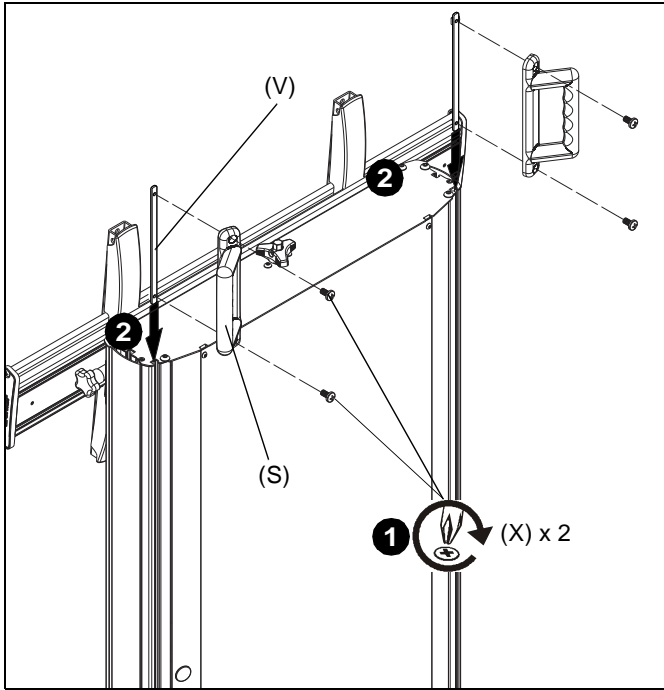

Figure 11
1. Loosely install two 1/4-20 x 5/8" Phillips pan machine screws (X) through holes in each handle (S) and into slide nut (V). (See Figure 11)
2. Slide each handle into slots back of cart. (See Figure 11)